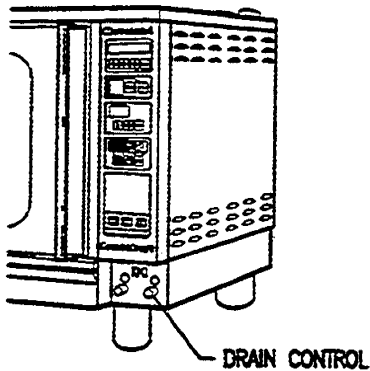

Figure 3-5. Steam Generator Drain Control
2. Check that drain control at the bottom of the unit is closed by pressing in on the drain control knob. Refer to Figure 3-5.
4. Open the steam generator drain control by pulling the knob at the base of the unit out (refer to Figure 3-5). The water can be heard draining from the steam generator.